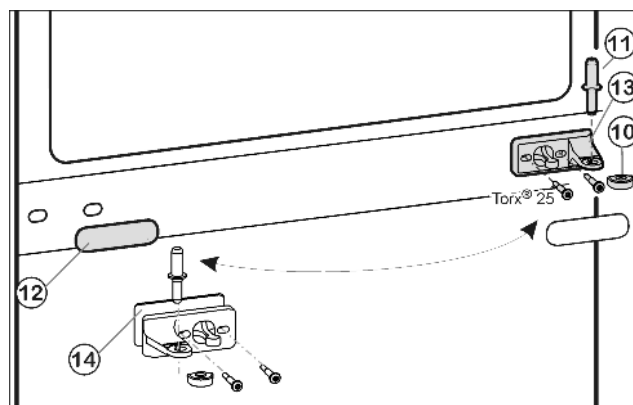
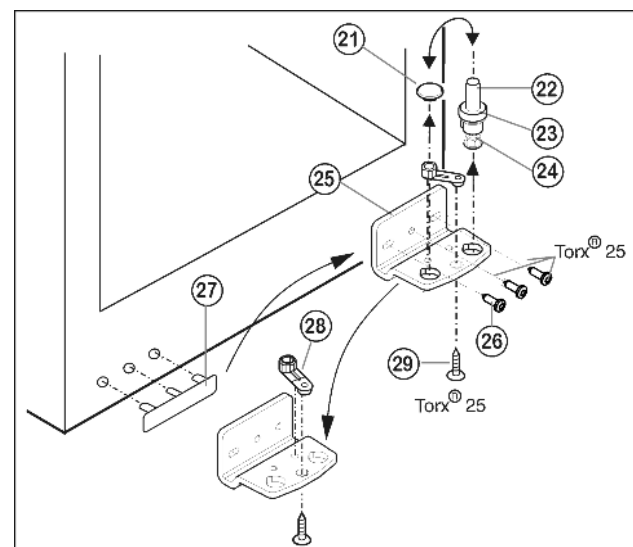

Fig. 5
Fig. 6
- ▶ Draw the middle bearing pin Fig. 5 (11) out of the turn hinge and lower door.
- ▶ Remove the plastic cap Fig. 5 (10).
- ▶ Unscrew the middle turn hinge (2x Torx® 25). Fig. 5 (13)
- ▶ Carefully detach the cover panel Fig. 5 (12).
- ▶ Turn the middle turn hinge Fig. 5 (13) with the washer Fig. 5 (14) through 180° and screw it firmly into place on the new hinge side (with 4 Nm).
- ▶ Turn the cover panel Fig. 5 (12) through 180° and snap it into place again on the new handle side.
- ▶ Lift out the bearing pin Fig. 6 (22) together with washer Fig. 6 (23) and foot Fig. 6 (24).
- ▶ Lift off the stopper Fig. 6 (21).
- ▶ Unscrew Fig. 6 (26) the turn hinge Fig. 6 (25).
- ▶ Unscrew Fig. 6 (29) the bearing element Fig. 6 (28), transfer it to the opposite location hole of the turn hinge and screw it firmly into place.
- ▶ Carefully lift off the cover on the handle side *Fig. 6 (27)* and transfer it to the opposite side.
- ▶ Screw the turn hinge *Fig. 6 (25)* firmly into place on the new hinge side, possibly using a cordless screwdriver (**with 4 Nm**).
- ▶ Re-insert the stopper *Fig. 6 (21)* into the other hole.
- ▶ Re-insert the bearing pin *Fig. 6 (22)* together with washer and foot. In so doing, pay attention that the locating lug points backwards
- ▶ Place the lower door from above onto the lower bearing pin *Fig. 6 (22)*.
- ▶ Place the plastic cap *Fig. 5 (10)* back onto the middle turn hinge *Fig. 5 (13)*.
- ▶ Place the middle bearing pin *Fig. 5 (11)* in the lower door, on the new hinge side, through the middle turn hinge *Fig. 5 (13)*.
- ▶ Place the upper door on the middle bearing pin *Fig. 5 (11)*.
- ▶ If necessary, align the doors to the appliance housing by way of the two oblong holes in the bottom turn hinge *Fig. 6 (25)* and middle turn hinge *Fig. 5 (13)*. To do so, unscrew the middle screw in the bottom turn hinge *Fig. 6 (25)*.